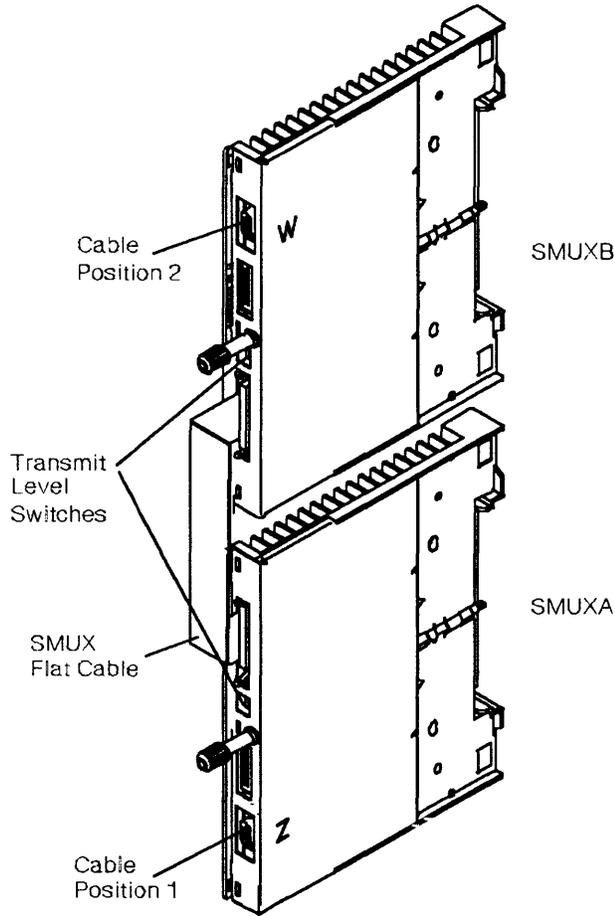
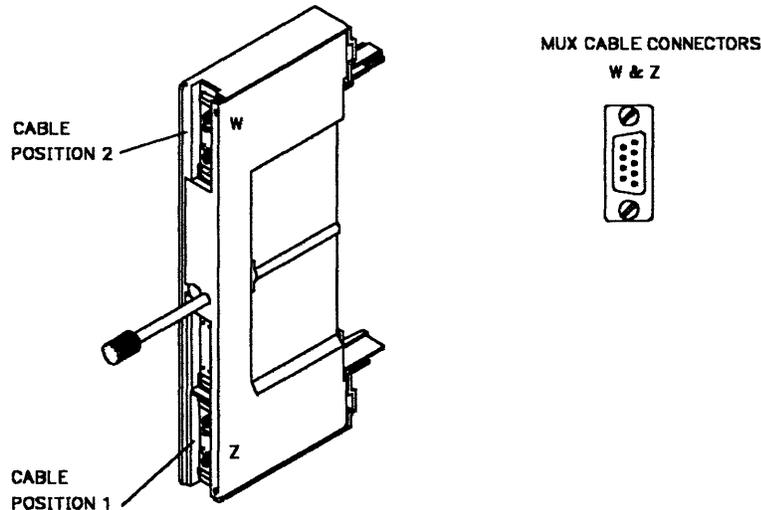

Figure 1-15. SMUX Cards. (This shows the SMUXA and SMUXB cards when two LIB2 boards are installed. Only SMUXB is used if a single LIB2 is present.)
Figure 1-17. DMUX Card
Step 4. ____ Locate the transmit level switches on each SMUXA/SMUXB card installed (see Figure 1-15). Set the transmit level switches to the correct value for your country according to the table in Figure 1-16.
- Step 1. ____ Remove the DMUX card cover on the left of each LIB1 board, and locate the DMUX card in column B of each LIB1 board (see Figure 1-17).
- Step 3. ____ Configure the LA-to-MUX cables according to the 'DMUX or SMUX position' column of *Page YZ 839*. See Figure 1-17 and Figure 1-15 on page 1-12 for the socket locations.